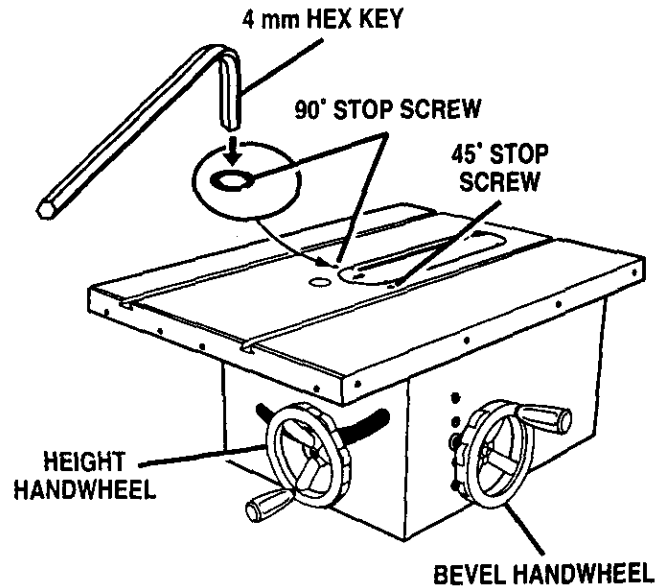

Fig. 46
- If blade angle is wrong, adjust the 90° stop screw (left of the blade, looking from the front). See Figure 46. Start by turning the 90° stop screw three or four times with a 4 mm hex key.